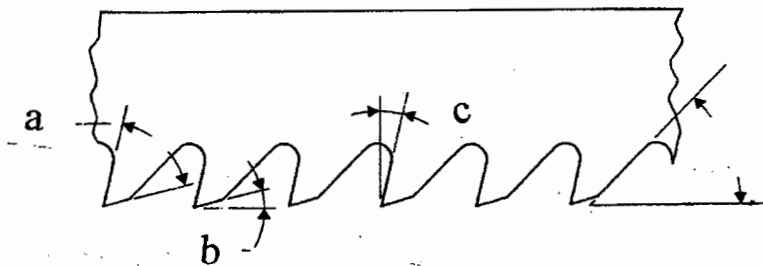

Figure 1. Arrangement of cutting teeth of a power saw blade.
- a) Figure 1 shows the teeth of a heavy duty power saw blade.